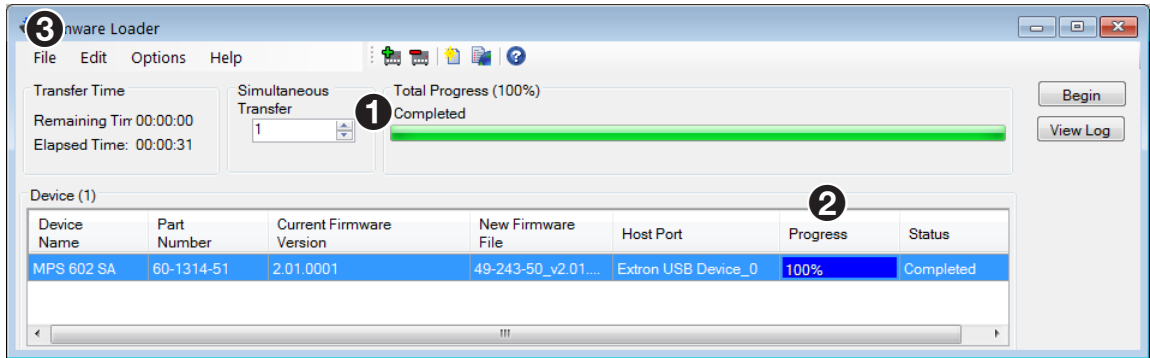

Figure 25. Firmware Loader Completed Firmware Update
When the verification is finished, the update is completed (see figure 25, 1 and 2).
10. Select **File > Exit** to exit the program (see figure 25, 3).